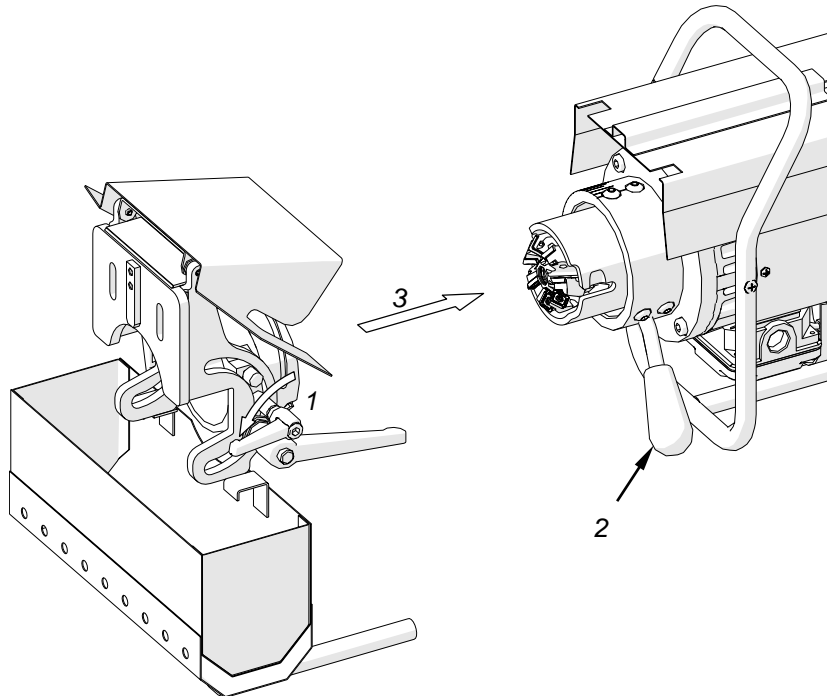
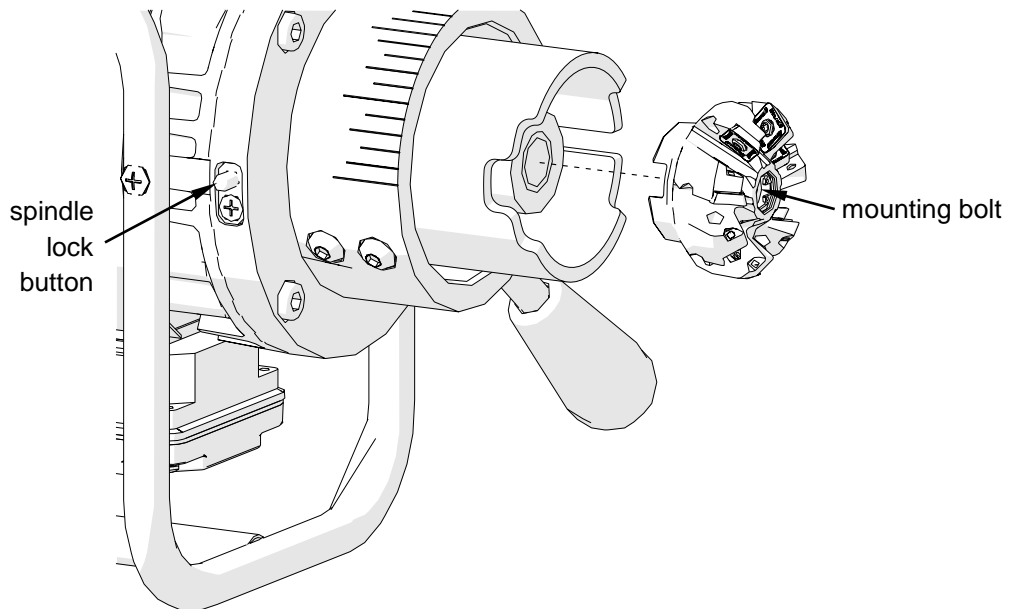
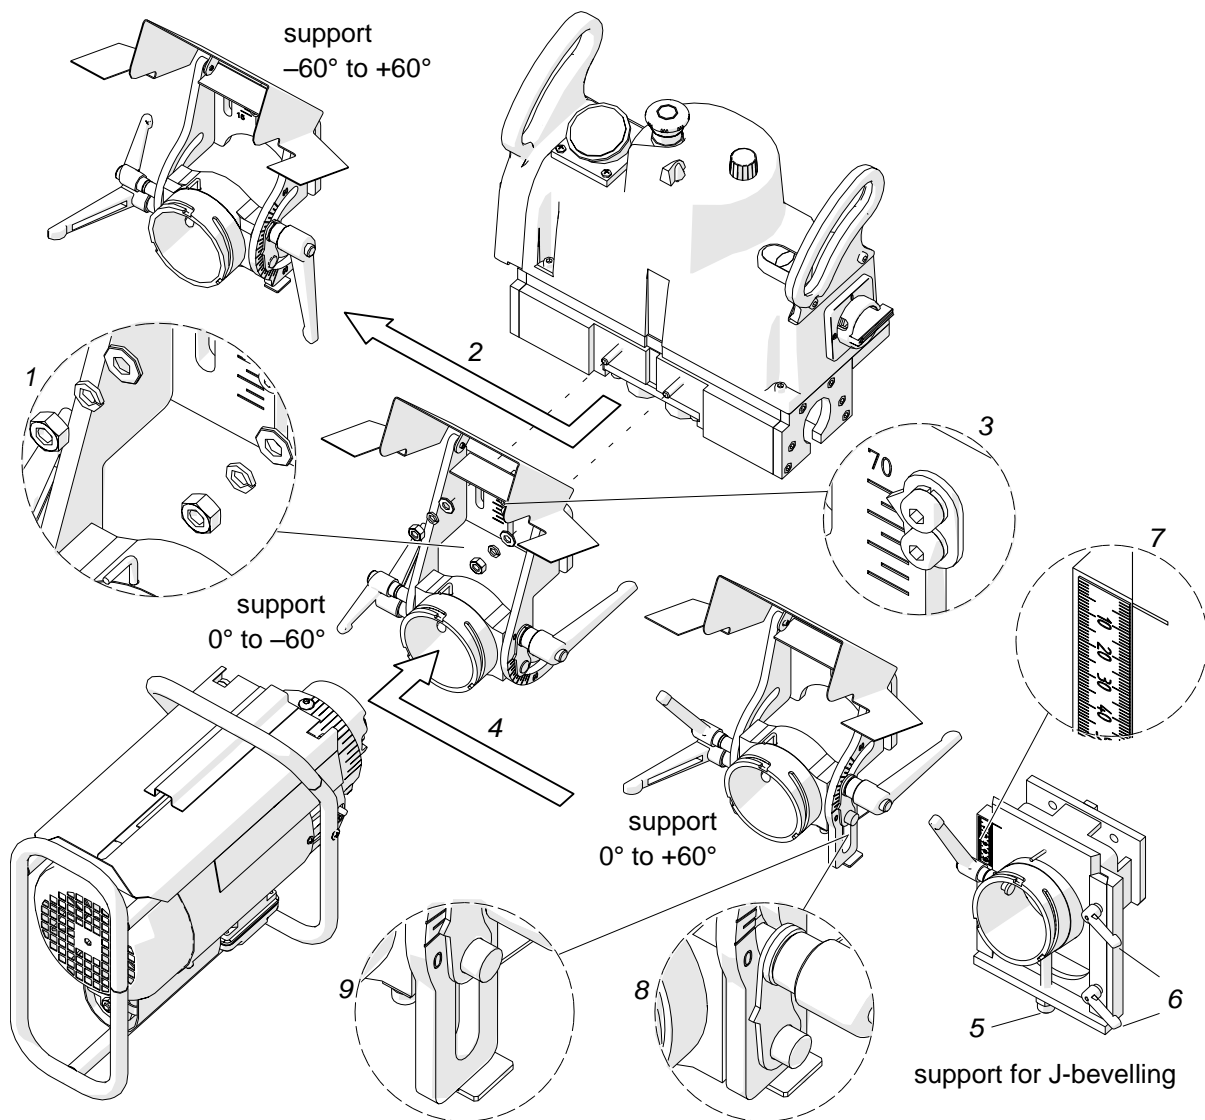

Figure 7. Method of dismounting milling unit
Figure 9. Method of replacing milling head
Figure 10. Method of replacing milling head support
The inserts can be replaced or rotated. To do this, unplug the power cord from power socket and remove the plug from the supply socket for milling unit. Then, loosen the bevel depth lock lever (1, Figure 7), set the lever 2 in the position shown in the figure and remove the milling unit (3).
Unplug the power cord from power socket and remove the plug from the supply socket for milling unit. Dismount the milling unit in the manner shown in Figure 7, press and hold the spindle lock button, and use 5 mm hex wrench to loosen the bolt (Figure 9). Then, release the lock button and remove the head. Mount in reverse order.
To mount a milling unit support, unplug the power cord, remove the plug from the supply socket for milling unit, and dismount the milling unit as shown in Figure 7. Then, unscrew the nuts using 13 mm flat wrench (1, Figure 10), and take out the mounted support (2). Before installing the support for machining thick plates at the negative angle (from the bottom), loosen two screws of the support using 4 mm hex wrench (3) and set the indicator to the thickness of the plate to be machined. Position the milling unit support on the screws (4), place the washers under the nuts (1) in order shown in Figure 10, and tighten the nuts afterward. To mount the support for J-bevelling, use 8 mm flat wrench to loosen the bolt 5 and two lock levers 6, set the body to a proper height indicated by the pitch 7, and tighten the bolt and levers. Then, mount the milling head for J-bevelling in the manner shown in Figure 9.
To face the plate using the support for machining thick plates from the top, perform the first pass with the milling unit in the lowest position (8, Figure 10), and then the second pass at the indication of '0' (9).